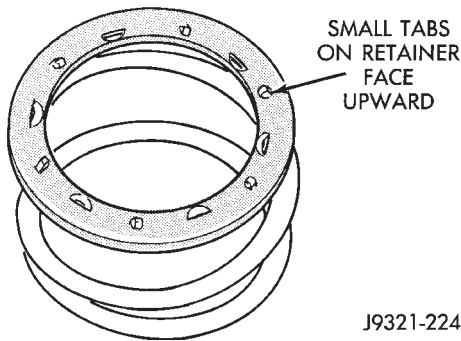

Fig. 58 Correct Spring Retainer Installed Position
(6) Position spring retainer on top of piston spring (Fig. 58). **Make sure retainer is properly installed. Small raised tabs should be facing upward. Semi-circular lugs on underside of retainer are for positioning retainer in spring.**